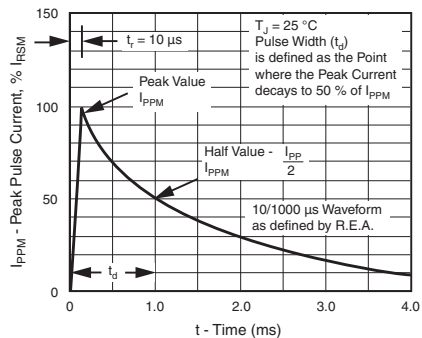
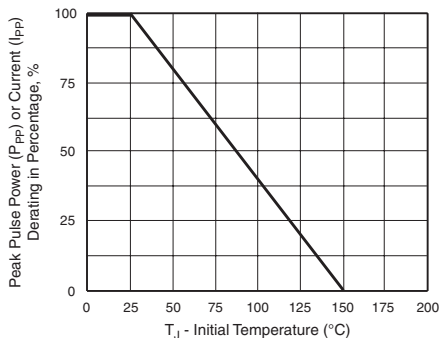

Figure 3. Pulse Waveform
Figure 2. Pulse Power or Current vs. Initial Junction Temperature
- (1) Pulse test: tp ≤ 50 ms
- (2) Surge current waveform per Fig. 3 and derate per Fig. 2
- (3) For bi-directional types having VWM of 10 V and less, the ID limit is doubled
- (4) All terms and symbols are consistent with ANSI/IEEE C62.35
- (5) For the bi-directional SMBG/SMBJ5.0CA, the maximum VBR is 7.25 V
- (6) VF = 3.5 V at IF = 50 A (uni-directional only)